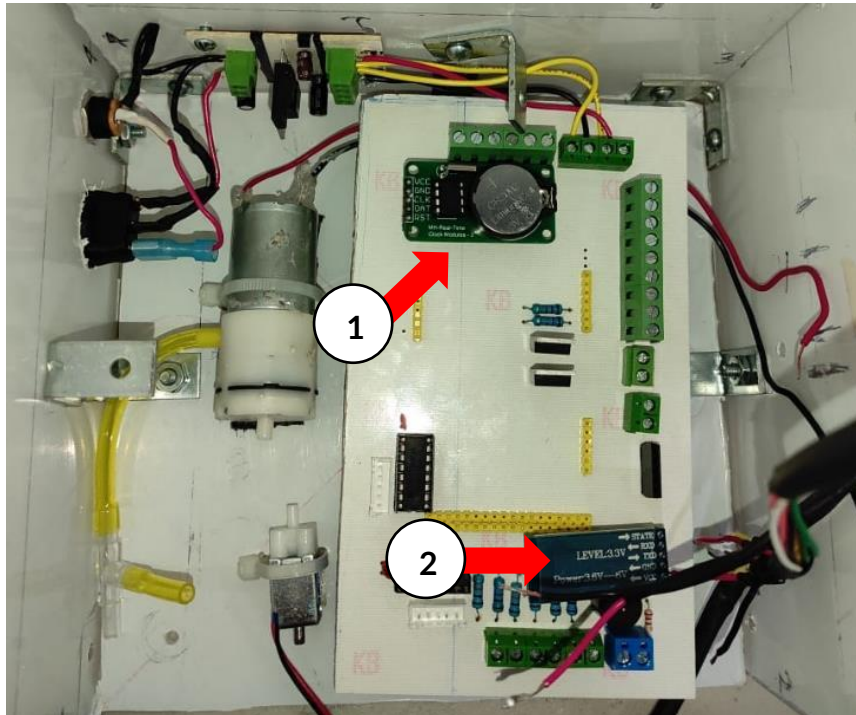

Figure 21- Motherboard with components installed
4. Add the motherboard to the Arduino Mega 2560 and connect the RTC (1) and the Bluetooth module (2) shown in Figure 21.